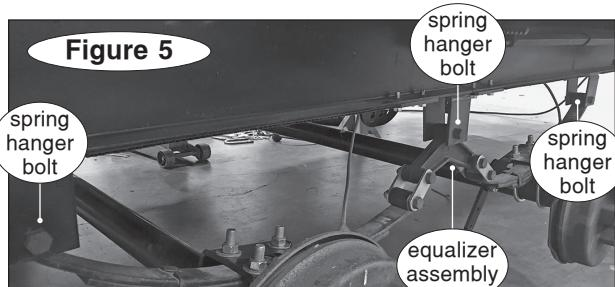

Figure 6
7. Ensure that the center equalizer hanger flanges are straight and vertical. If necessary, bend them (Figure 6).